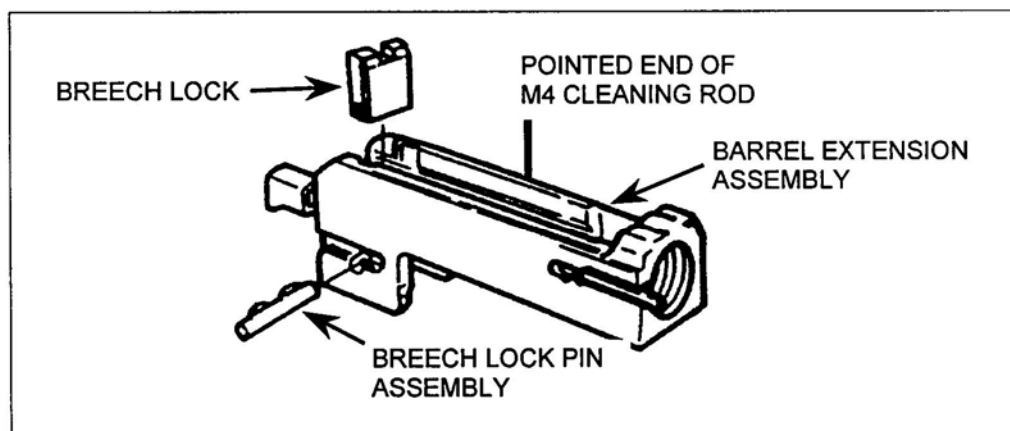

Figure 19. Removal of the breech lock pin assembly and breech lock.
- (4) Disassemble barrel extension assembly.
- (a) Using the pointed end of the M4 cleaning rod, remove breech lock pin assembly (Figure 19).